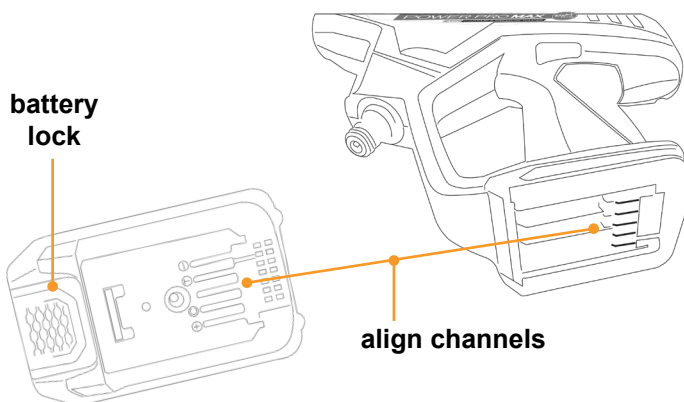

Fig.11
1. Align handle assembly with the channels on the battery pack (Fig.11).
2. Slide battery pack into base of the handle assembly until battery pack is securely attached to the main handle assembly. Battery lock (Fig.11) will engage when the battery pack is correctly attached to handle assembly.
7. Remove battery pack from handle assembly by pressing the battery lock button (**Fig.11**) down, then slide the battery out from the base of the handle assembly.
NOTE: The 2.6 Ah MAX Li-ion battery pack has a single-button, latch release mechanism—located on the top, front side of the battery, just above the Power Test panel (**Fig.11**).